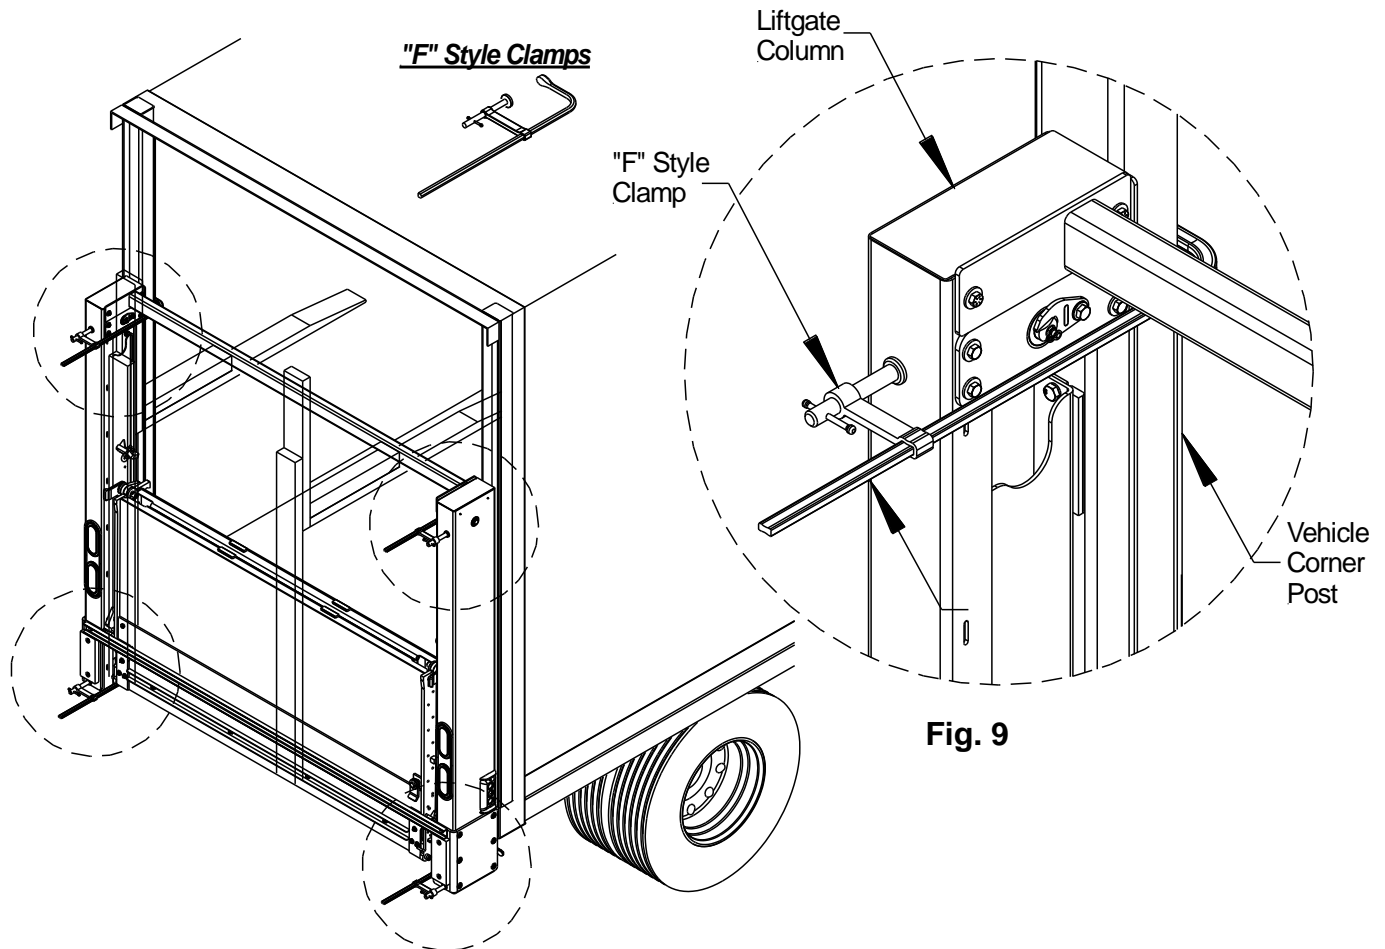

Fig. 9
7. **Clamping Liftgate:** After centering the gate, use four (4) "F" style clamps, two on top and two at bottom, to secure the liftgate flush against the vehicle, **Fig. 9**. Confirm all mounting dimensions are correct, check to ensure that the floor and traverse are flush, and that the columns are flush to the vehicle.